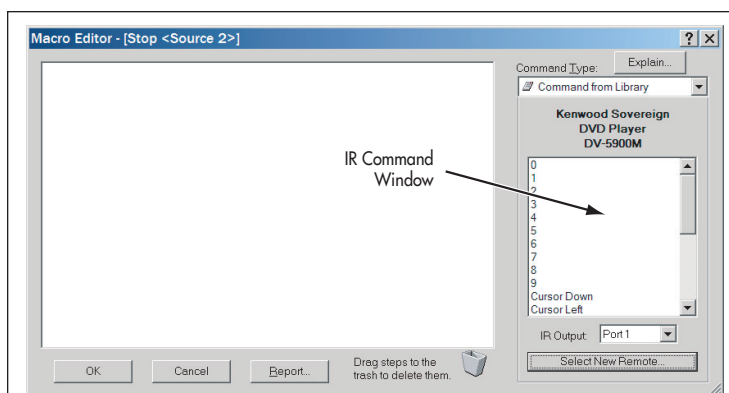

Figure 44:
5. Select the device. Its commands will appear in the small IR COMMAND WINDOW on the MACRO EDITOR Screen (see Figure 44).